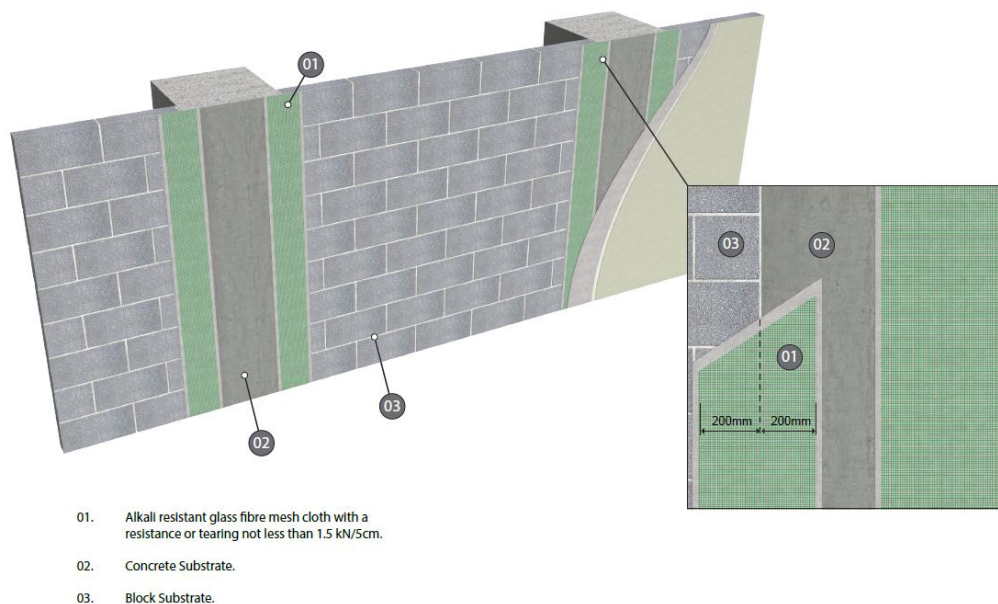

Figure 9 - Meshing across dissimilar backgrounds
- a) Embedment of an alkali resistant mesh cloth in the undercoat (in the first pass for KPRO Façade UNO and KPRO Façade DuraRend) with a **minimum 200mm overlap**. (Figure 9)